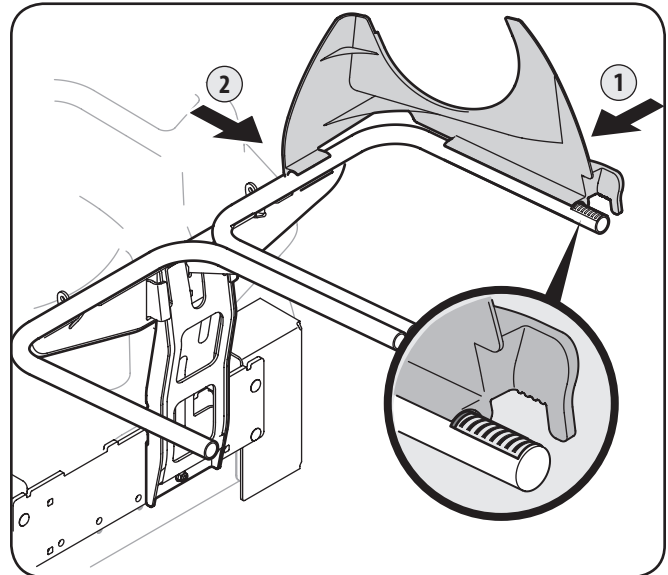

Figure 4-6
- Snap the plastic upper chute support in place by first clipping the side portion onto the bagger support rail (1) with the edge of the snap feature aligned with the line on the label, as shown in the inset of Figure 4-6.
- Snap the front side of the chute support to the rail (2), as shown in Figure 4-6.